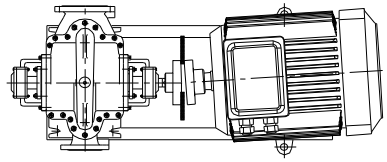

Fig 6a. Angle error in horizontal plane and adjustment
- In order to control the angular mistake, the distance between two parts of the coupling should be measured mutually on horizontal and vertical planes. The clearances measured at these four points should be equal (Figure 6a,6b).
- Adjustment mistakes may be on the horizontal and/or vertical plane. Mistakes on the vertical plane may be made by putting thin metal sheets under the pump or motor mounts and the mistakes on the horizontal plane by benefiting from the gaps in the connection holes or sliding the engine on the horizontal plane. Manner and order of the coupling adjustment is shown in the **Figures 6a, 6b, 6c and 6d**, respectively.